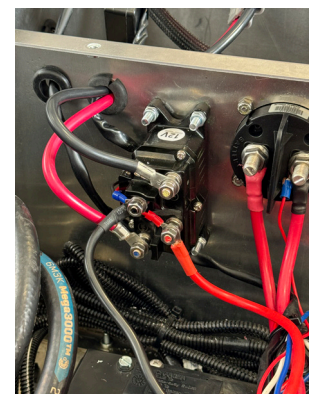

Figure 7. Solenoid location
Step 6. Locate an appropriate location to mount the solenoid to the inside divider of the toolbox. Mark hole locations and drill holes with a 1/4" (.250") bit. Install fasteners and secure solenoid to divider, on the battery side. Also feed the silver metal connector through the grommet, towards the quick connect wires. See figure 7.